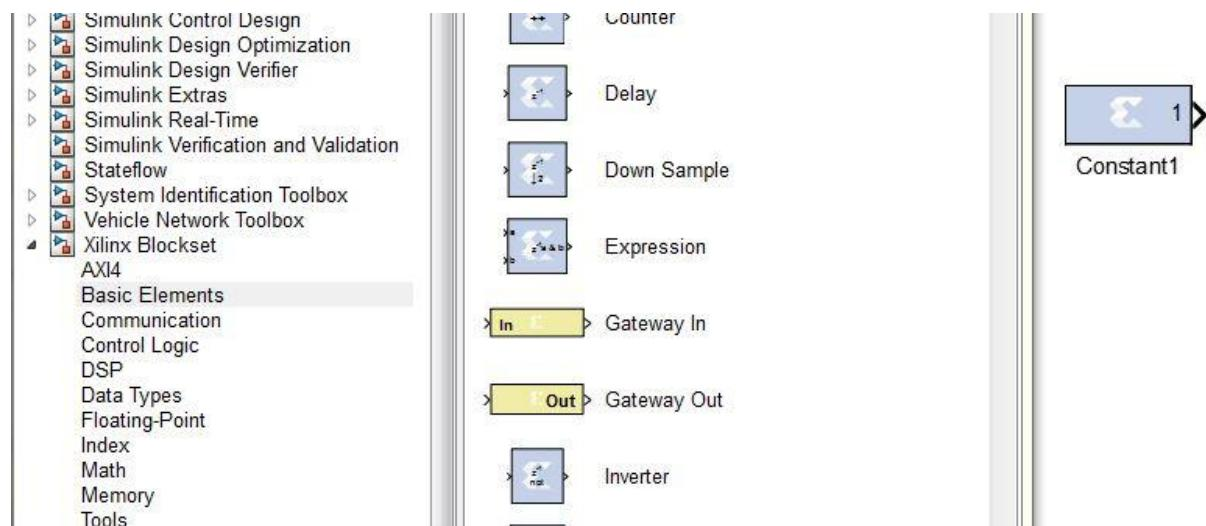

Figure 25: Constant Block Addition.
5. Add Constant: *Xilinx Blockset* > *Basic Elements* > *Constant* as shown in figure 25.